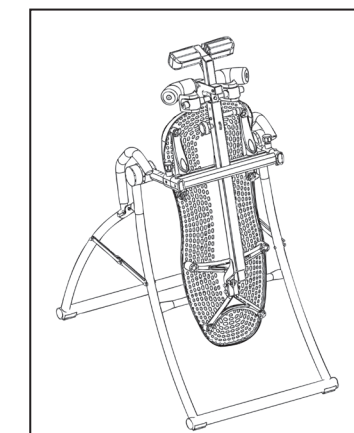

Figure 21
- Shorten the Main Shaft and rotate the Table Bed opposite from use into its storage position. Leave the A-frame open and locked at the spreader arms (Figure 21).